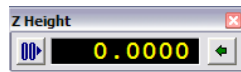

Figure 4-31: Z-axis Height
- e. On the **Z Height** display (Figure 4-31), click the **00** button to set the Z coordinates at zero.